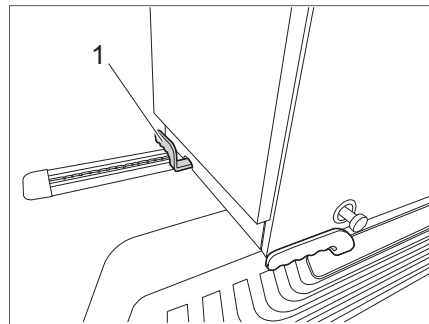

Fig. 28 Unlock the kitchen block
- Pull up the locking lever (Fig. 28,1).